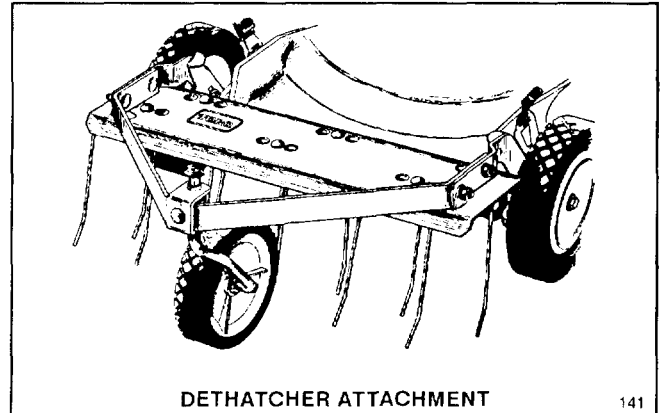

Figure 22
3. **Dethatcher Kit, Model No. 59131**—As spring tines on the Toro Dethatcher (Fig. 22) scratch and vibrate through the grass, thatch is loosened and cut and recut by the mower.